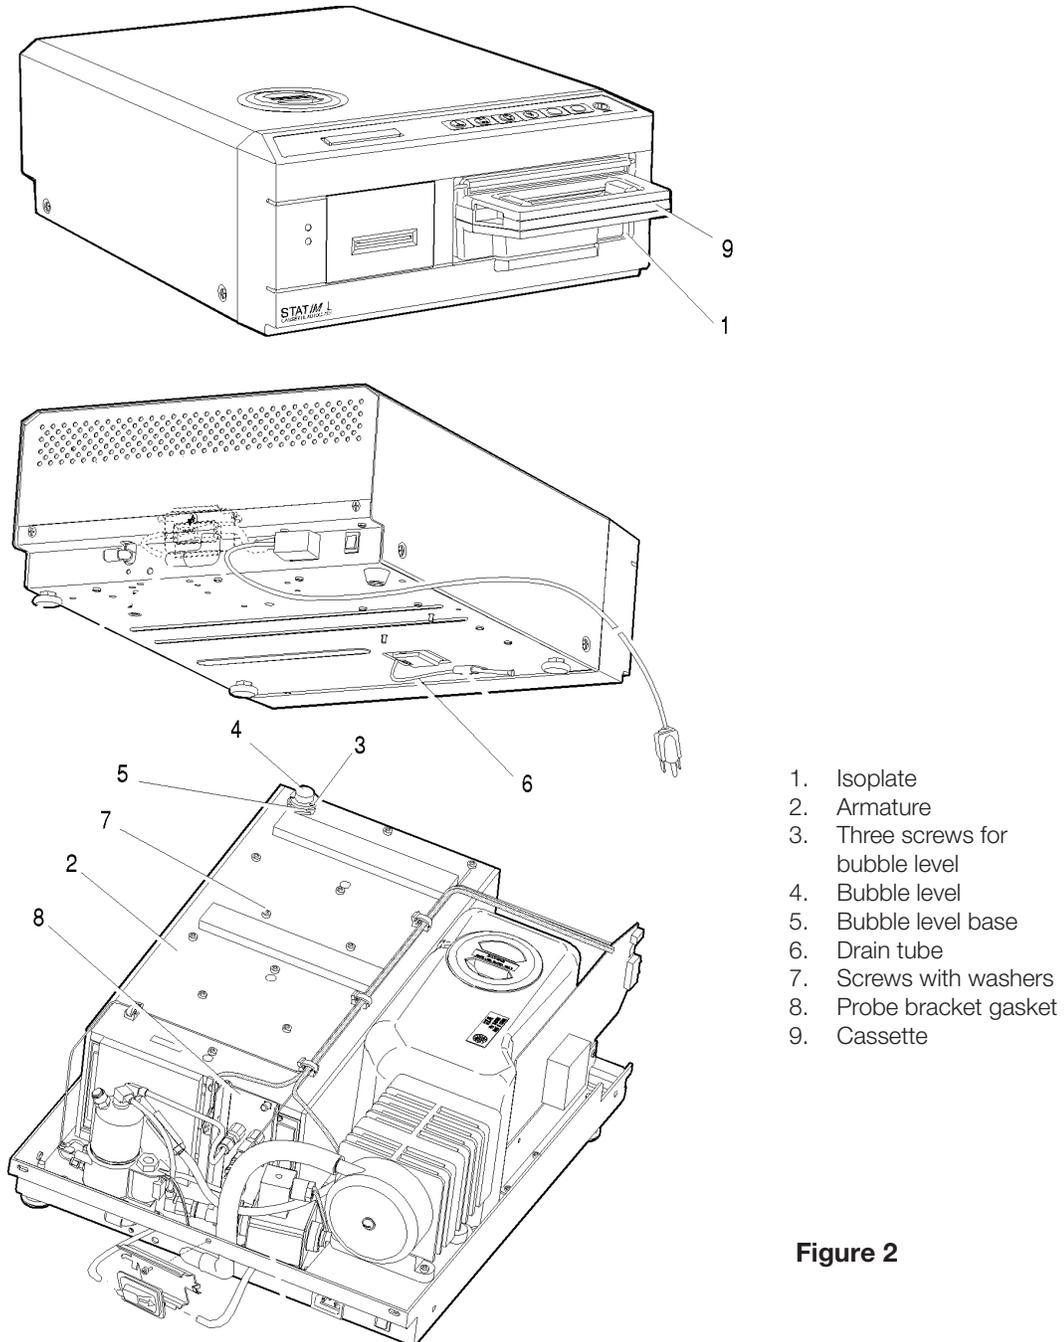

Figure 2
To remove the isoplate assembly (1) from inside the armature (2) proceed as follows (see Figure 2):
2. Remove the three screws (3) securing the bubble level (4) to the bubble level base (5) on the front right corner of the armature. (The bubble level obscures a fastener that must be removed.)
3. The drain tube (6) passes through the bottom of the armature near the probe bracket opening and is attached to the isoplate. Using a pair of pliers, pull the drain tube off and retain.
4. The isoplate is secured in the armature using screws with washers (7) on the top and bottom of the armature. Remove and retain all the screws with washers.
To install the replacement isoplate, proceed as follows (see Figure 2):